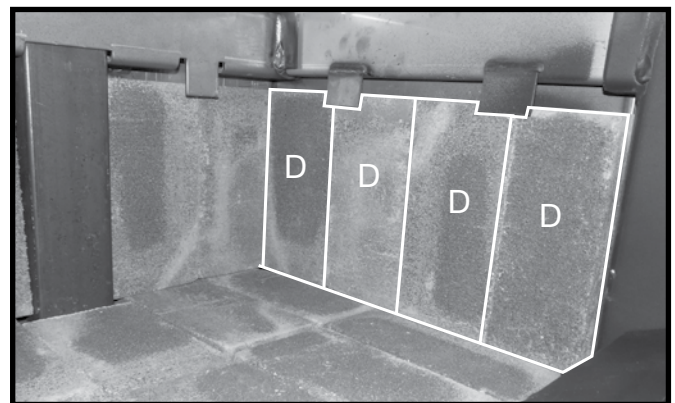

Figure 24: Side wall brick placement.
4. Place 2 "D" bricks along one of the side walls by slipping them up under the side brick rail tabs (Figure 24) and pushing to the rear, past the back brick. Place two more "D" bricks in the remaining opening at the front of the firebox and eliminate any gaps between the bricks by shifting the bricks toward the rear wall.